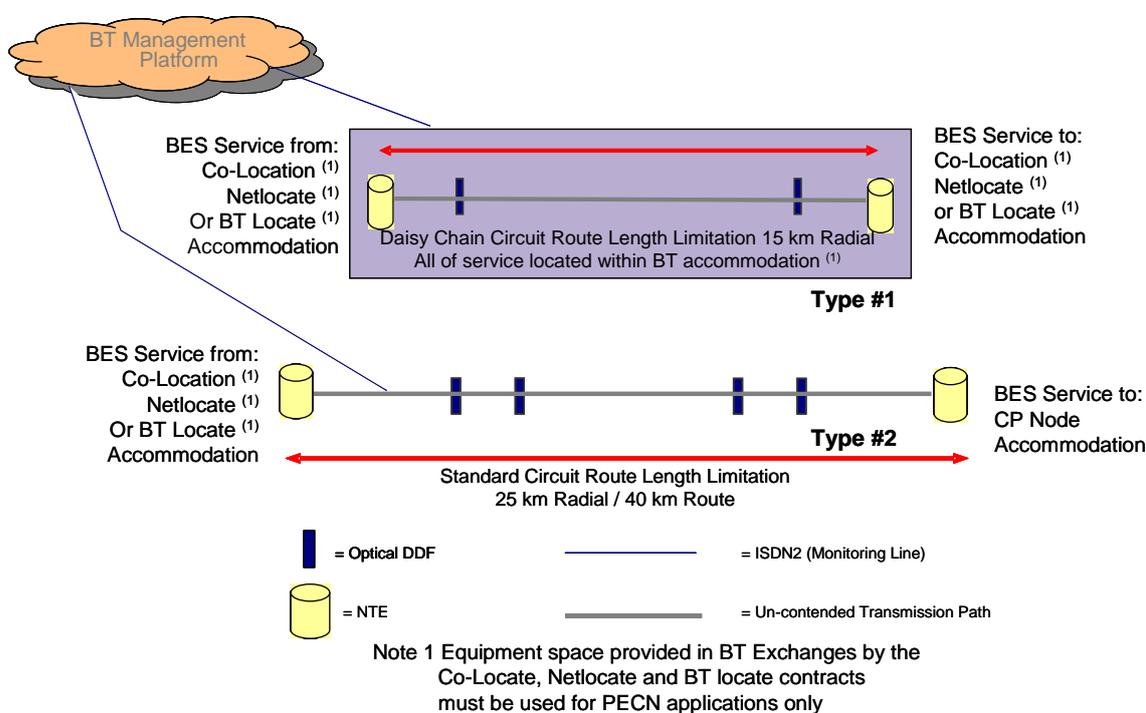

Figure 1. BES 155 Service Configuration
A schematic of the BES 155 service arrangement is shown in Figure 1.
*Note 3.* Figure 1 depicts two separate circuit scenarios, not a combined service. The upper scenario (Type #1, NTE to NTE) represents a BES circuit with where both ends have a common serving exchange. The lower scenario (Type #2, NTE to NTE via a serving exchange) represents a BES circuit which ends are served from different exchanges